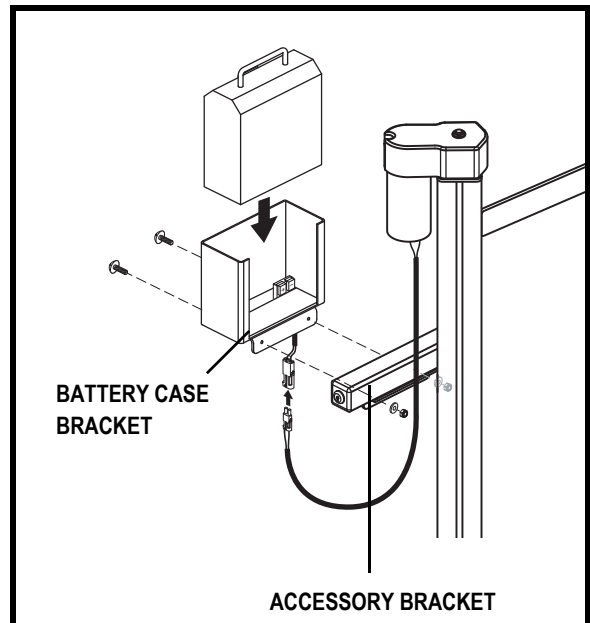

Figure 5. Onboard Battery Installation
1. Align the mounting holes in the battery case bracket with those in the accessory bracket located under the key switch tube. **See figure 5.**
2. Secure the battery case to the accessory bracket with the supplied hardware. **See figure 5.**
4. Plug the battery cord on the bottom of the battery case into the mating connector running from the motor. **See figure 5.**